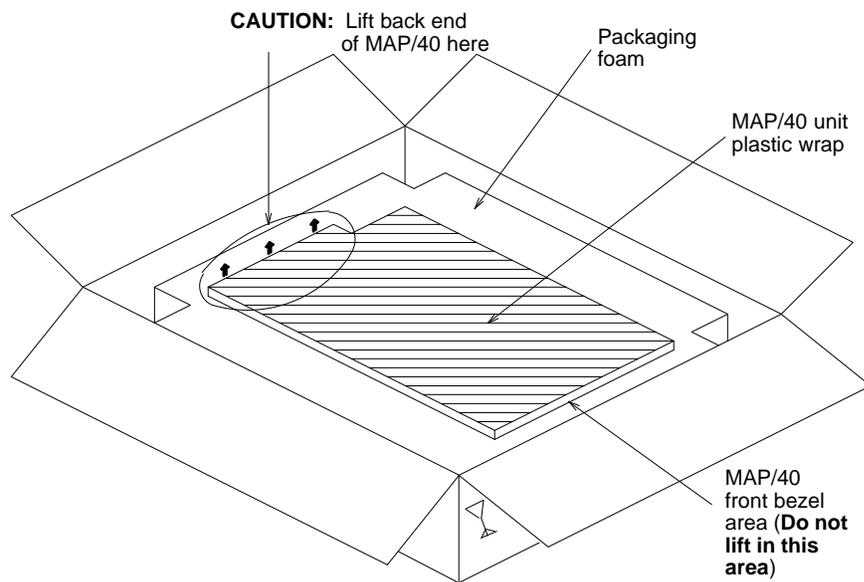

Figure 2-4. Lifting the MAP/40 from Foam Inset
8. Press in on the foam and lift the end of the MAP/40. See Figure 2-4.